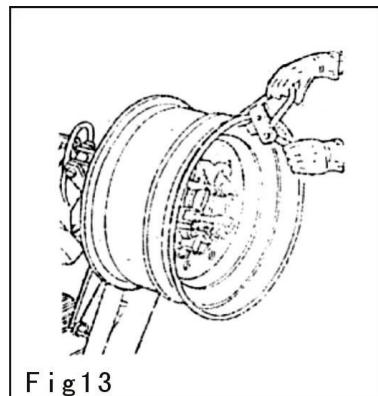

Fig 13
- 3) Clamp the pliers at the highest position outside of the rim of the wheel as **Fig 13**.